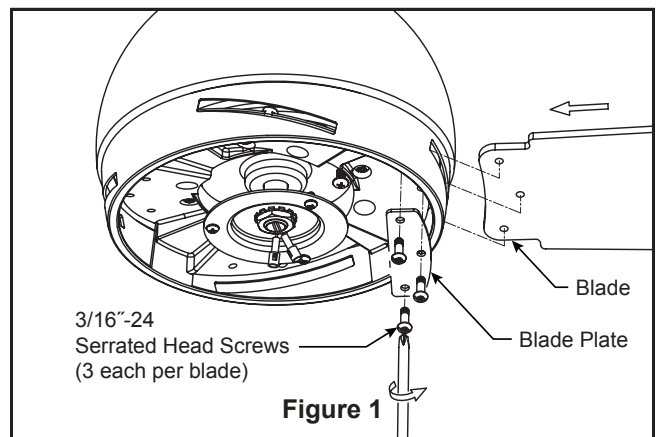

Figure 1
1. Carefully slide the blade through the slot as shown. Securely fasten the four blades to the motor housing using the blade plates and 3/16"-24 serrated head screws. (Figure 1)